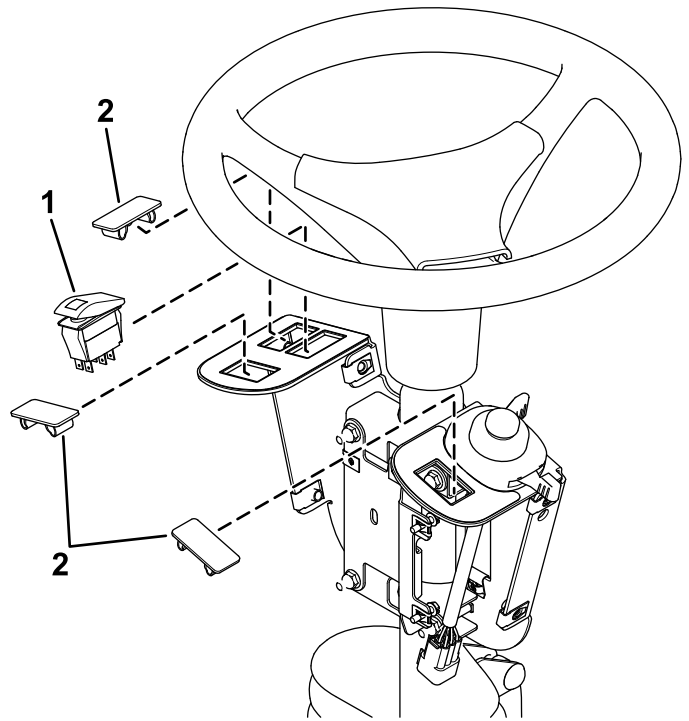

Figure 5
3. Install the rocker switch and hole plugs into the switch mount (Figure 5).